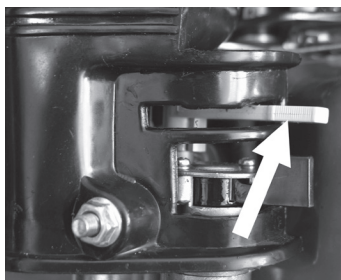

Fig. 9
4. Slowly pull the self-winding starter cord handle (13) until it engages and then jerk it. Repeat as required until the engine starts up. Release the starter cord immediately after the engine starts up.
5. Wait for the engine to warm up. Set the choke lever a short distance to the right. In hot weather, perform this within a few seconds, whilst in cold weather within a few minutes. Prior to every change, allow the engine to run smoothly. After achieving the operating temperature, set the choke lever to the right to the OFF position (Fig. 9).